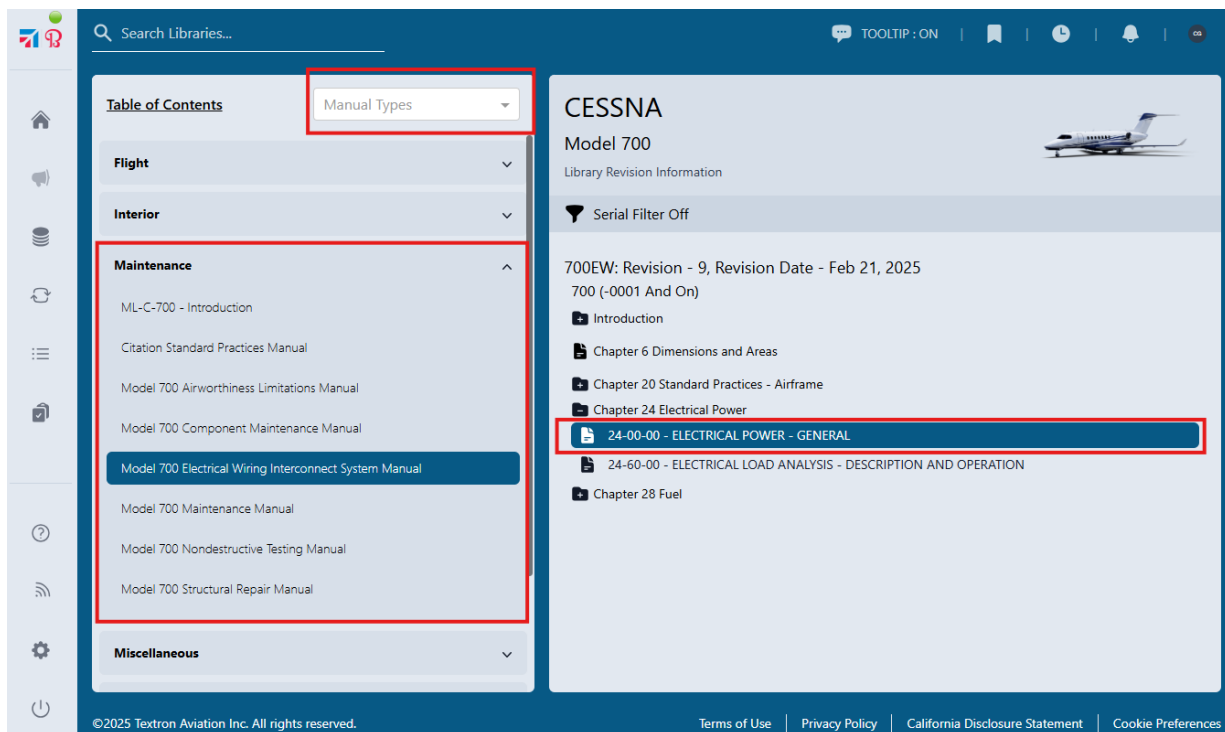

Figure 4 - 1View Table of Contents with manuals types and documents displayed.
1. The TOC contains all manuals and chapters for the selected model (Refer to Figure 4).